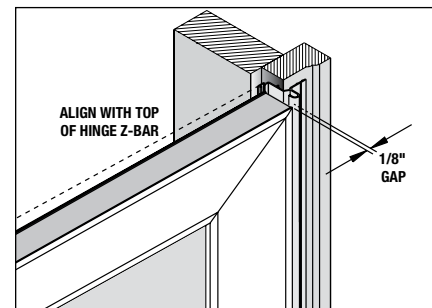

FIGURE 8
1. Open the door and position the latch side z-bar against the wood trim—close door while hanging on to the latch z-bar. Align top of latch z-bar with top of hinge z-bar, allowing a 1/8" gap between door and latch side z-bar. **See Figure 8**
2. Install five (5) #8x1" panhead screws through pre-drilled holes in the outside face of latch z-bar.